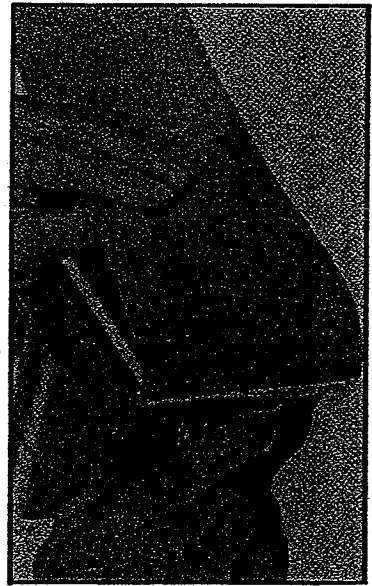

Fig. 2
1. Press front clip toward base and slip one end of abrasive sheet under clamp, as shown in Fig. 2.